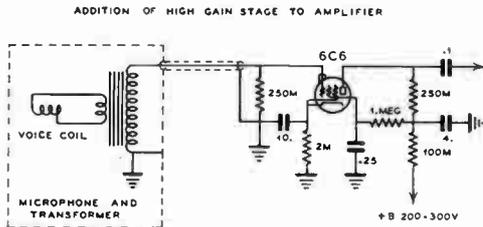

FIG. 3
- Ideally suited to broadcast studio, or remote use, amateur radio, or public address. Flat type of response reproduces music with extreme fidelity, as well as voice. Can be used with almost any existing amplifier as sufficient gain is incorporated. When used with amplifier for low audio gain, a pre-amplifier is necessary. A successful circuit for a pre-amplifier stage is shown in Fig. 3.